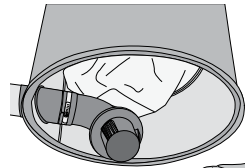

figure 17
2. Remove the used bag (**figure 17**). If it has been used, seal its opening with the self-adhesive flap on the bag collar (see instructions on the bag). Discard the used bag. If the bag was not utilized, you may wish to store it for later use.